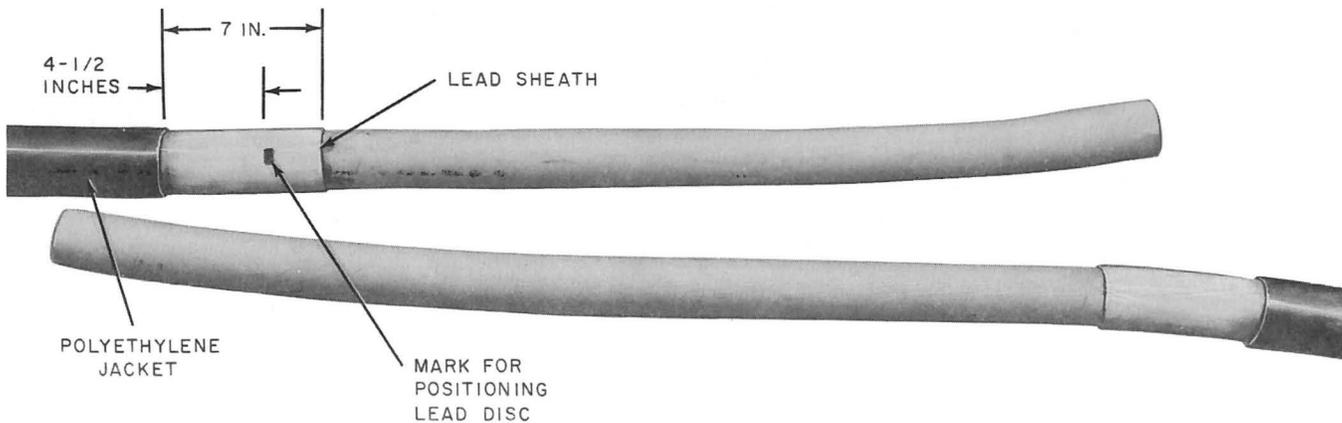

Fig. 5—Marked Lead Sheath
5.02 Mark the lead sheath 4-1/2 inches from the end of the outer polyethylene jacket (Fig. 5) *on one side of the splice opening*. This mark will be used later to position the first B Lead Disc.